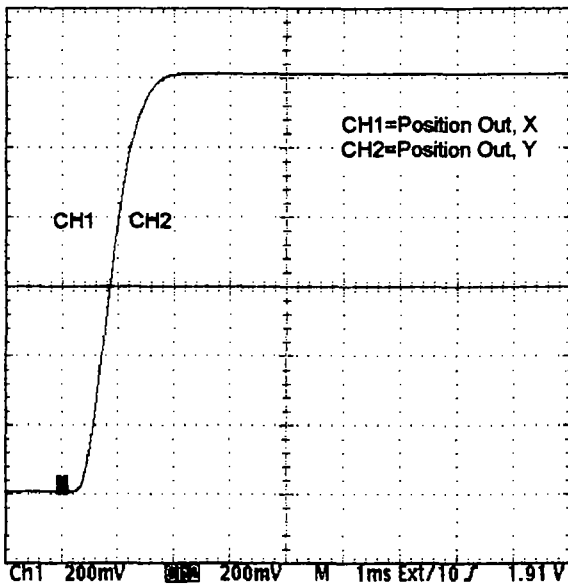

Figure 32.
6. Slow the faster servo channel as necessary by adjusting its servo adjustment trimpots slightly. Refer to section 6.1.7. for proper operation of all the tuning trimpots. Ensure that the channel is still critically damped when done. Do not adjust this channel's slew rate limiter trimpot at this time. Be patient. The faster channel should be slowed to track the first almost perfectly. When done, the system should look like Figures 32 and 33.
8. Repeat steps 6 and 7 until both conditions can be met and the outputs look like figures 32, 33, and 35.